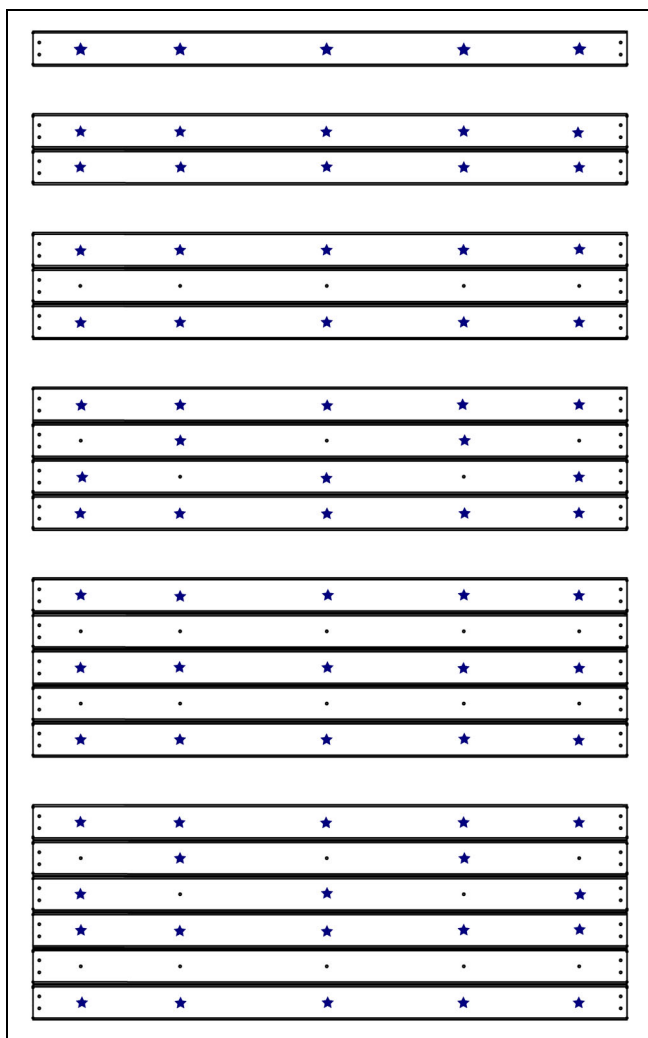
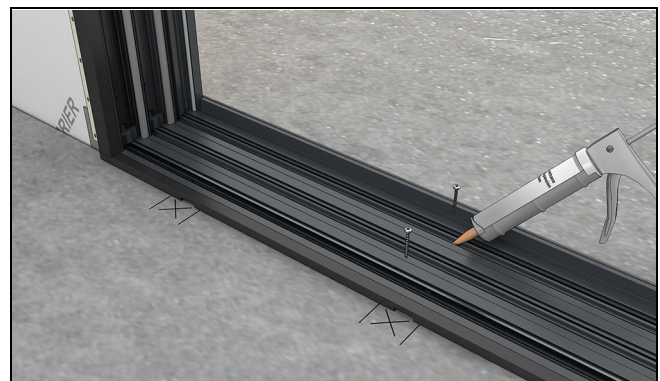

Figure 58 Place fasteners through Head Jamb, Sill, and Jamb at locations indicated by the star shapes above.
Figure 73
4. Use the chart below to determine proper fastener placement depending on configuration (number of tracks). See Figure 58.
8. Install the remaining screws into the sill. (not provided on performance or flush sills). Fasten HP sills at 10" (254) on center. All other sills, fasten at 20" (508). See Figure 73. See Figure 58 previously for screw placement.